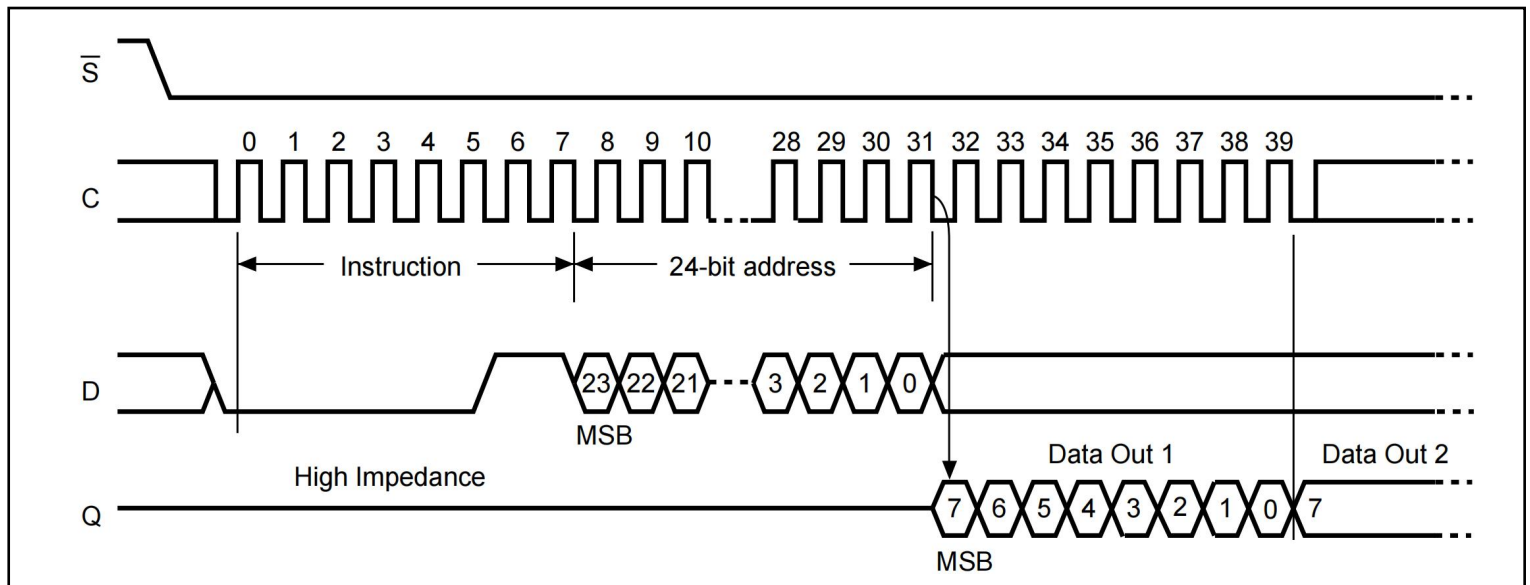

Figure 11. Read from Memory Array (READ) sequence
As shown in Figure 11, to send this instruction to the device, Chip Select (S) is first driven low. The bits of the instruction byte and address bytes are then shifted in, on Serial Data Input (D). The address is loaded into an internal address register, and the byte of data at that address is shifted out, on Serial Data Output (Q).